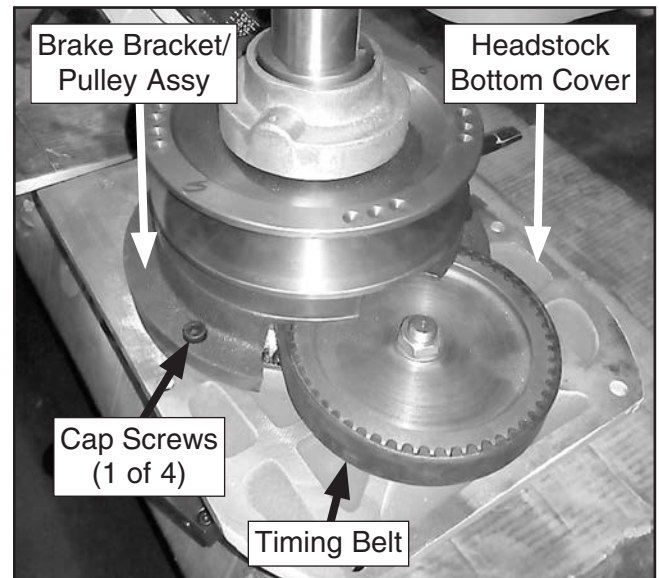

Figure 102. G0797 headstock bottom cover removed to expose brake bracket.
9. Remove headstock bottom cover from headstock upper casting, then loosen (4) cap screws and remove brake bracket/pulley assembly (see **Figure 102**). This will provide access for replacing timing belt.